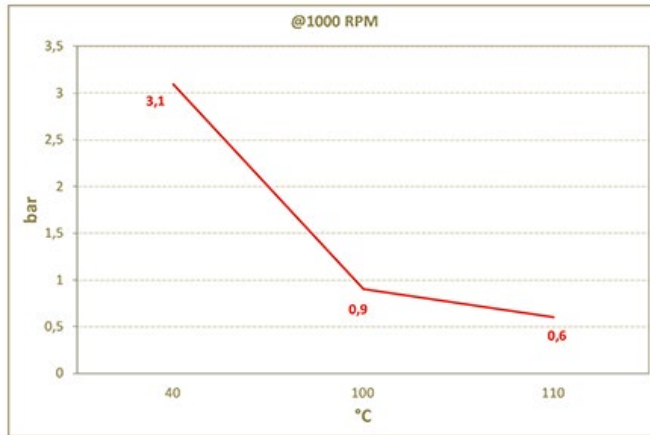

Fig. 12.7
3. Start the engine at idle speed and without a load, check the oil pressure value according to the oil temperature (**Fig. 12.7**).
NOTE: The graph in **Fig. 12.7** illustrates the pressure line with speed of 1000 Rpm.
4. If the pressure values are below the values indicated in **Fig. 12.7**, check to identify the cause of the problem.